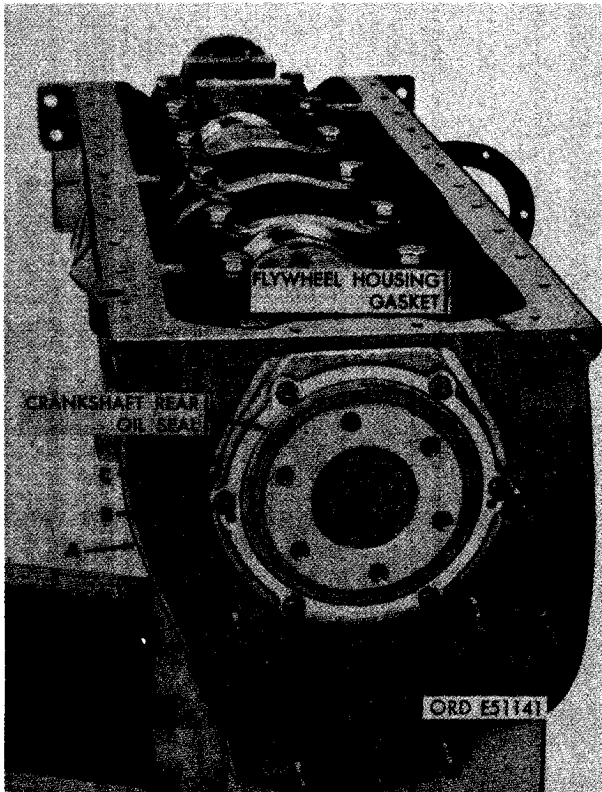

FIGURE 300. REMOVING OR INSTALLING CRANKSHAFT REAR OIL SEAL HOUSING.
**b. Removal.** Figure 300. (A) Remove and discard flywheel housing gasket. (B) Remove six 5/16 x 1-1/4 cap screws and 5/16-inch lock washers securing crankshaft rear oil seal housing to cylinder and crankcase assembly. (C) Remove oil seal housing and oil seal. (D) Remove crankshaft rear oil seal housing gasket.